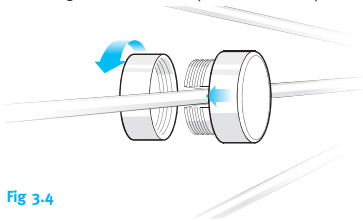

Fig 3.4
1. Unscrew the two halves of the magnet and mount to a spoke on the front wheel of your bicycle. (Fig 3.4)